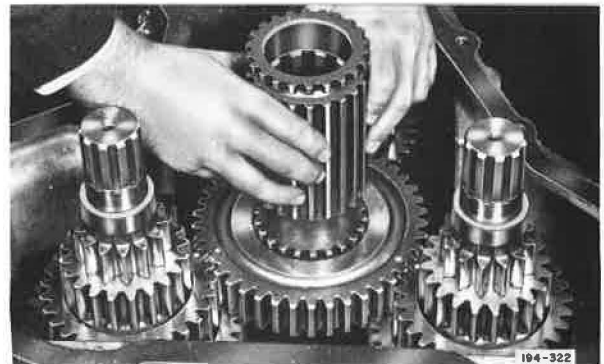

Figure 5-41. Installing Second/Third Speed Sliding Clutch
5. Install second/third speed sliding clutch and engage with third speed gear clutch teeth. See Figure 5-41.